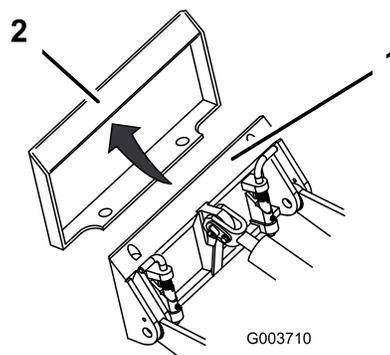

Figure 4
4. Position the mount plate into the upper lip of the attachment receiver plate (Figure 4).